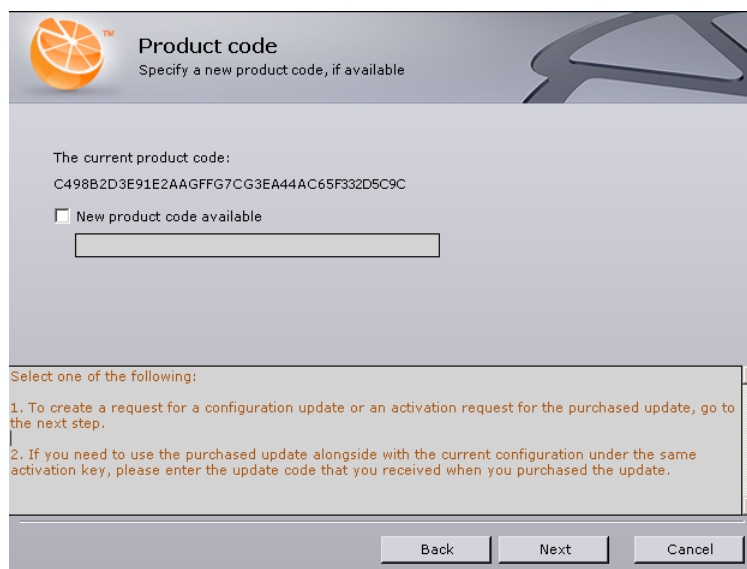

Fig. 4.6—13 Entering the code of the update purchased
7. Click the **Next** button. The activation request dialog box will then appear; select the desired activation method (Fig. 4.6—14):